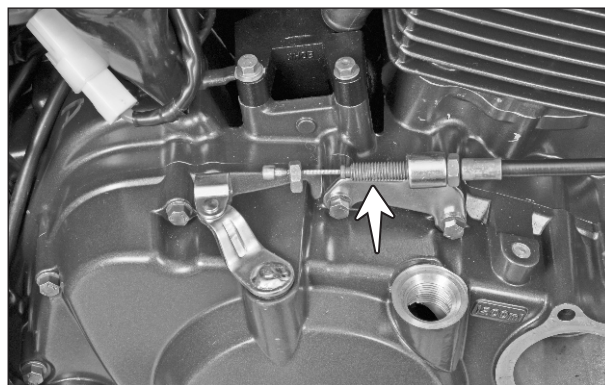

Fig. 3.4
- Dislocate the cable assembly clutch from the bracket clutch cable. (Fig. 3.4)